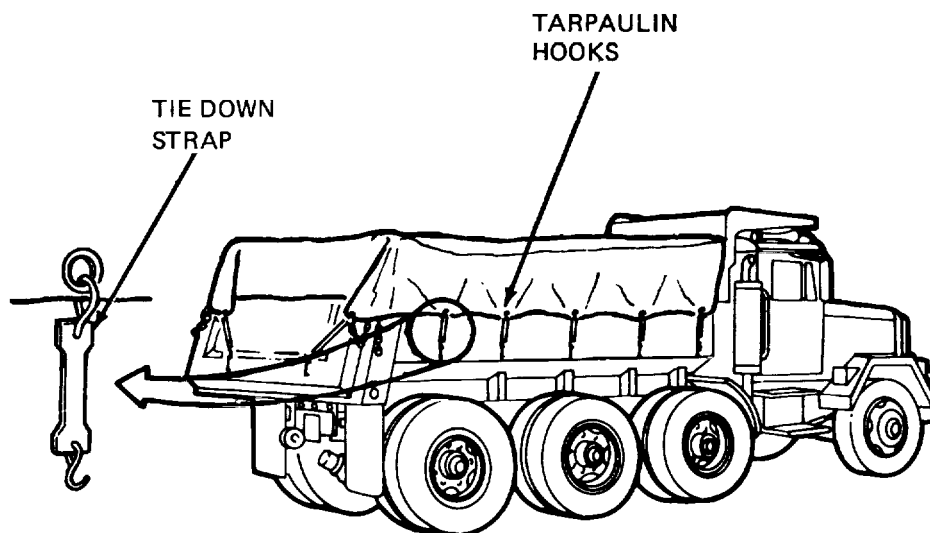

Figure 2-6. Tarpaulin Installation.
- b. If the tarpaulin is installed, remove it by disconnecting it from the tarpaulin tiedown hooks on the sides, front, and back of the dump bed (fig. 2-6).
- d. Install the tarpaulin (fig. 2-6).
- (2) Pull the tarpaulin from the stowage box.
- (3) Lay the rolled up tarpaulin across the front of the dump bed.
- (4) Hook the tarpaulin grommets over the tie-down hooks located on the front of the dump bed (fig. 2-6).
- (5) Roll out the tarpaulin across the load and hook the tarpaulin tie-down straps over the twelve tie-down hooks located on the sides and tailgate (fig. 2-6).